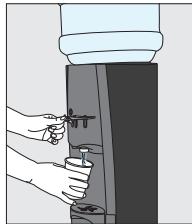
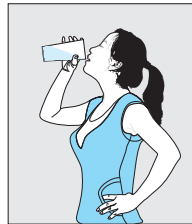

Figure 7
Figure 8
5. Do not draw water from the cooler for about 30 minutes to let the water cool or heat. Optimum water temperatures will be reached after several hours of operation (Figure 7 and Figure 8).